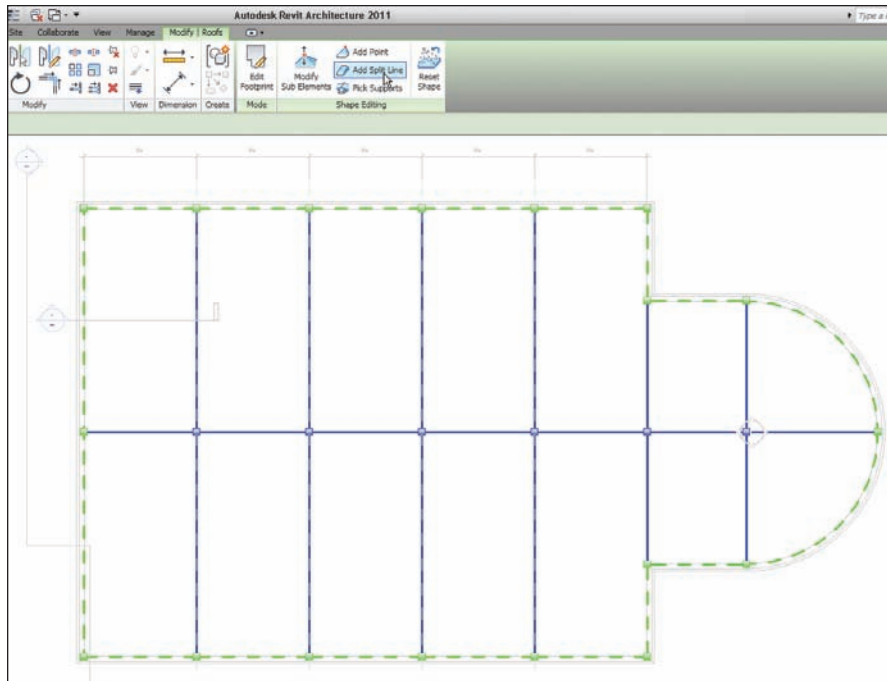

FIGURE 7.11 The ridges are in. All that is left is to create some points and start tapering the roof.
18. Click the Add Split Line, as shown in Figure 7.11.
19. Draw four ridges at the intersections of the reference planes, as shown in Figure 7.11.